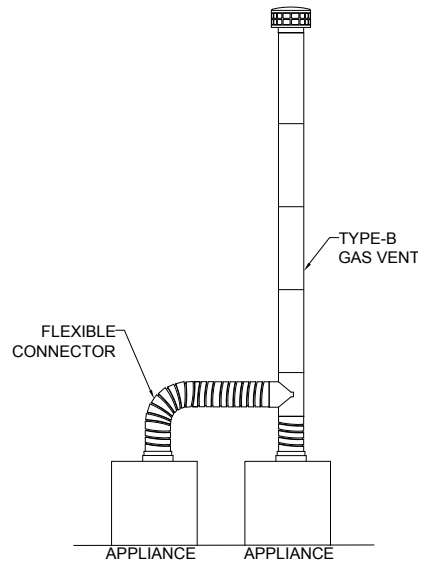

FIG. 5
- Multiple appliances (See FIG. 5).